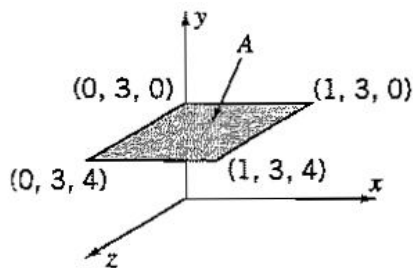

Figure P5.16
- Find the volume flux passing through area A shown in Figure P5.16.